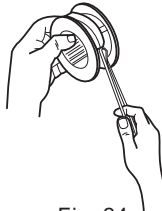

Fig. 24c
9. Cut a new 6 m long trimming line with a diameter of 2 mm. Form a loop at the middle of the line and insert this loop into the hook on the spool. (See Fig. 24c)